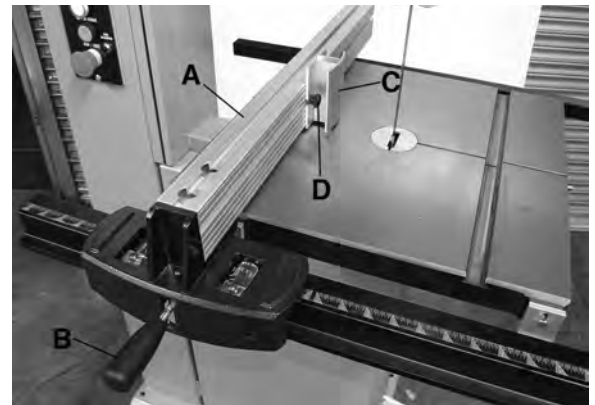

FIGURE 12
7. Position the rip fence (A) Fig.12 onto the front and rear rails. Lower the front handle (B) to lock rip fence into position.
8. Install the resaw guide (C) Fig.12 to the fence body using the 2 small lock knobs (D). Slide and position the resaw guide so that it is centered with the front edge of the blade and tighten lock knobs.
Resawing is a method of ripping a piece of lumber into thinner pieces as well as making book matched or slip matched panels. The curved resaw guide (C) Fig.12 is the best option for guiding wood through the bandsaw. The narrow line of contact makes it easy to compensate for a blade that "leads" or wanders off the cutting line when the stock is fed straight into it. You can get satisfactory results with this resaw guide "single point" method, but it demands very careful hand control.